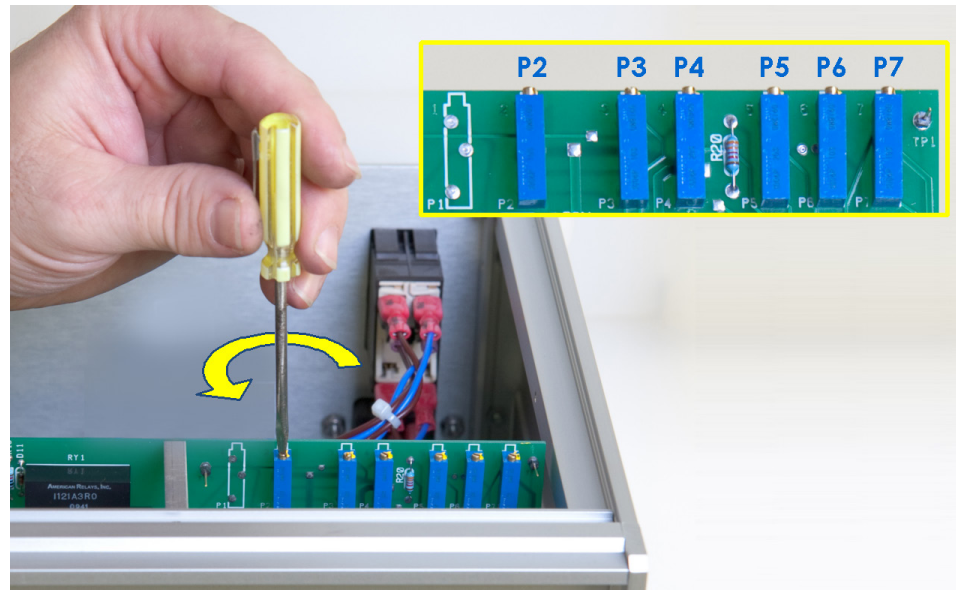

Figure 2-2. Location of the Trim Potentiometers on the MSR Rotator Control Unit Circuit Board
3. While the power is switched off, note the positions of the various trimmers located along the top of the main circuit board (see Figure 2-2). A trimmer adjustment tool (or a flathead screwdriver) is required to adjust these trimmers.